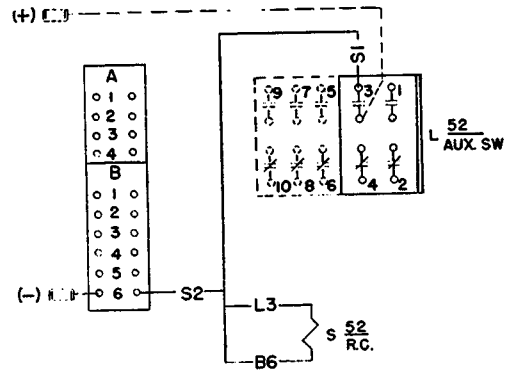

Fig. 31 (383A691, 215D175) Reverse current tripping device
**REVERSE CURRENT TRIPPING DEVICE****AK-50 ONLY (Fig. 31)**
**ADJUSTMENTS (Fig. 31)**
**REPLACEMENT (Fig. 31)**
After removing the wiring for the potential coil the reverse current device can be removed and replaced by following the procedure outlined for replacing the series overcurrent device. For wiring, see Fig. 31).